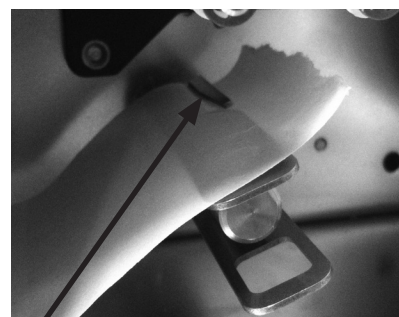

Figure 7-3
7. Turn the winding bobbin counter clockwise so the slot is on the top. See Figure 7-3.
8. Insert the paper under the slot on the winding bobbin. See Figure 7-3.